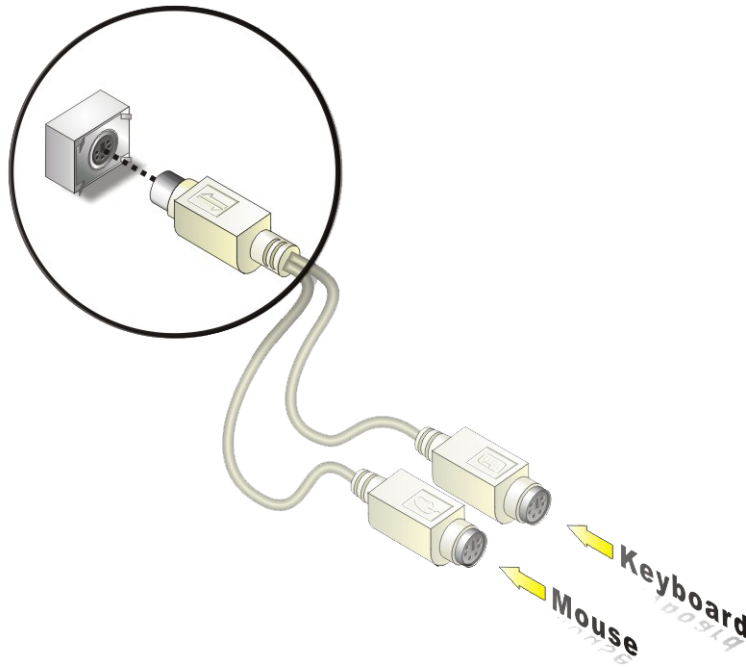

Figure 5-15: PS/2 Keyboard/Mouse Connector
Step 2: Insert the keyboard/mouse connector. Insert the PS/2 connector on the end of the PS/2 y-cable into the external PS/2 connector. See **Figure 5-15**.